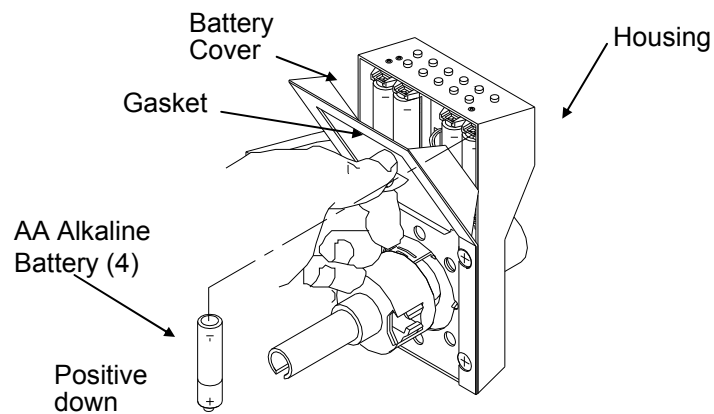

Figure 4 Battery Orientation and Replacement
Step 11 Remove and replace each of the old Batteries, **one at a time**, with the plus (+) end *down* (Figure 4).